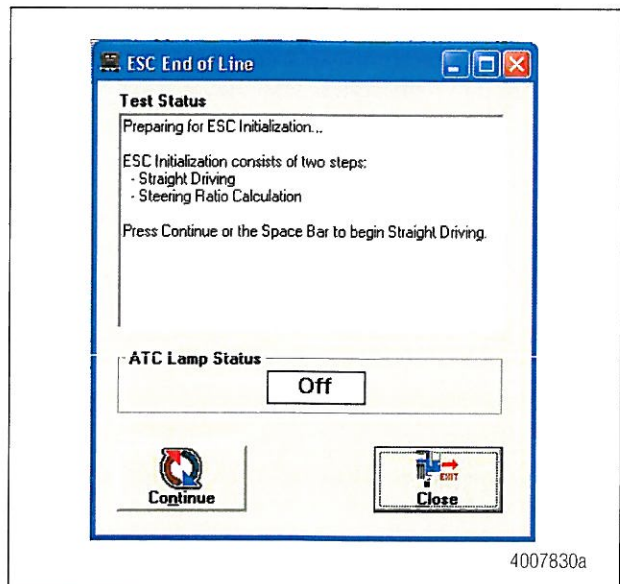

Figure 20
5. Read the information in the message box. When you are ready to proceed, press the space bar or click Continue. Once the calibration process has started, it will continue until the calibration is complete. No further keyboard inputs are required. Once the calibration process has begun, instructions will appear in the message box and will continue until the calibration is complete. Figure 20.